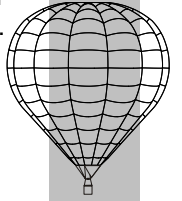

**Figure 8 - Centre Column Assembly**
Refer to Figure 8 and proceed as follows:
NOTE: Later MK-32 units are added with a plug (P/N 3D-03-19XX) on the top bore of the center column, sealed with an o-ring (P/N CR-09-0150), just below the blind nut – not shown in Figure 8. Its function is performance-oriented, requiring no maintenance.
- Using a socket and extension bar, undo and remove the coil post nut (Fig 8, item 1).
- Remove the upper bonded washer (Fig 8, item 2).
- Withdraw the coil (Fig 8, item 4).
- Replacement of the coil is the reverse procedure to removal. When replacing the coil, fit new bonded washers (Fig 8, item 2). Observe the recommended torque from section 1.9 (do never exceed 55 N·m). It is also strongly recommended to install a new set of the screws securing the coil strips to the can (Fig 2, items 2 & 7), using also aluminium or copper-based anti-seize paste.